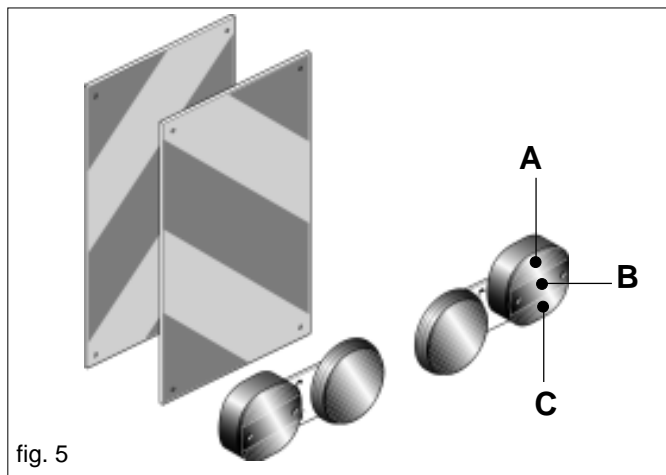

fig. 5
- 35) When the dimensions of carried or partially-carried equipment conceal the tractor's signalling and lighting devices, these must also be installed on the equipment itself, in conformity with regulations of the highway code of the country involved. When in operation make sure that the lighting system is in perfect working order. It is also important to remember that the correct signalling sequence of the headlights includes (Fig. 5):